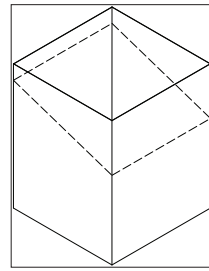

Figure 18
1. Mark a line on the side of the Cathedral Ceiling Support Box to correspond to the line of the roof pitch, as shown in **Figure 18**. Allow for the Support Box to protrude below the low side of the finished ceiling a minimum of 2".